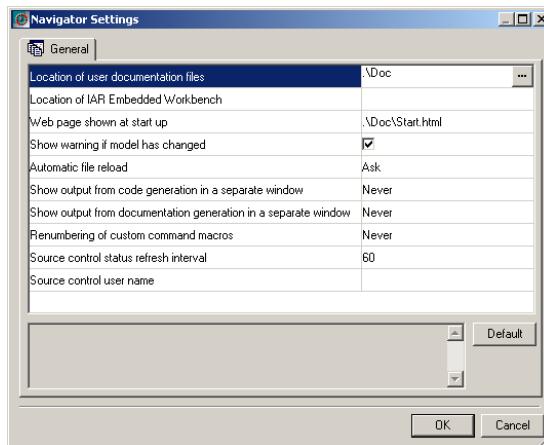

Figure 24: Navigator Settings dialog box
- I In the Navigator, choose Tools>Settings. A dialog box is displayed. See *Figure 24*, page 32.